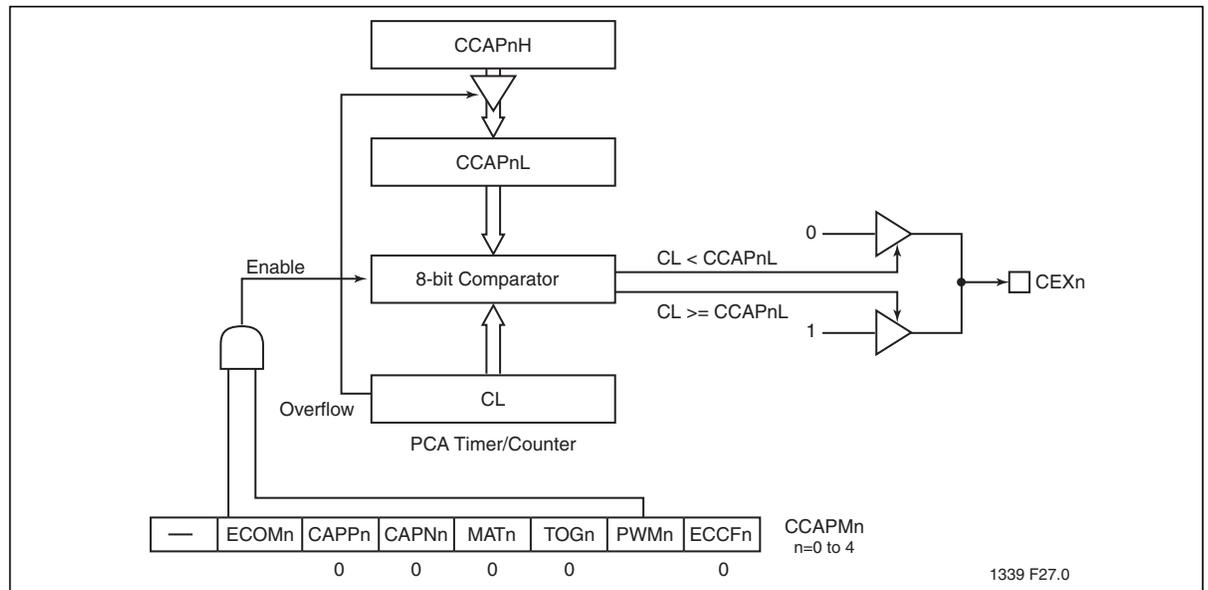

Figure 28:PCA Pulse Width Modulator Mode
The Pulse Width Modulator (PWM) mode is used to generate 8-bit PWMs by comparing the low byte of the PCA timer (CL) with the low byte of the compare register (CCAPnL). When $CL < CCAPnL$ the output is low. When $CL \geq CCAPnL$ the output is high. To activate this mode, the user must set the PWM and ECOM bits in the module's CCAPm SFR. (See Figure 28 and Table 23)